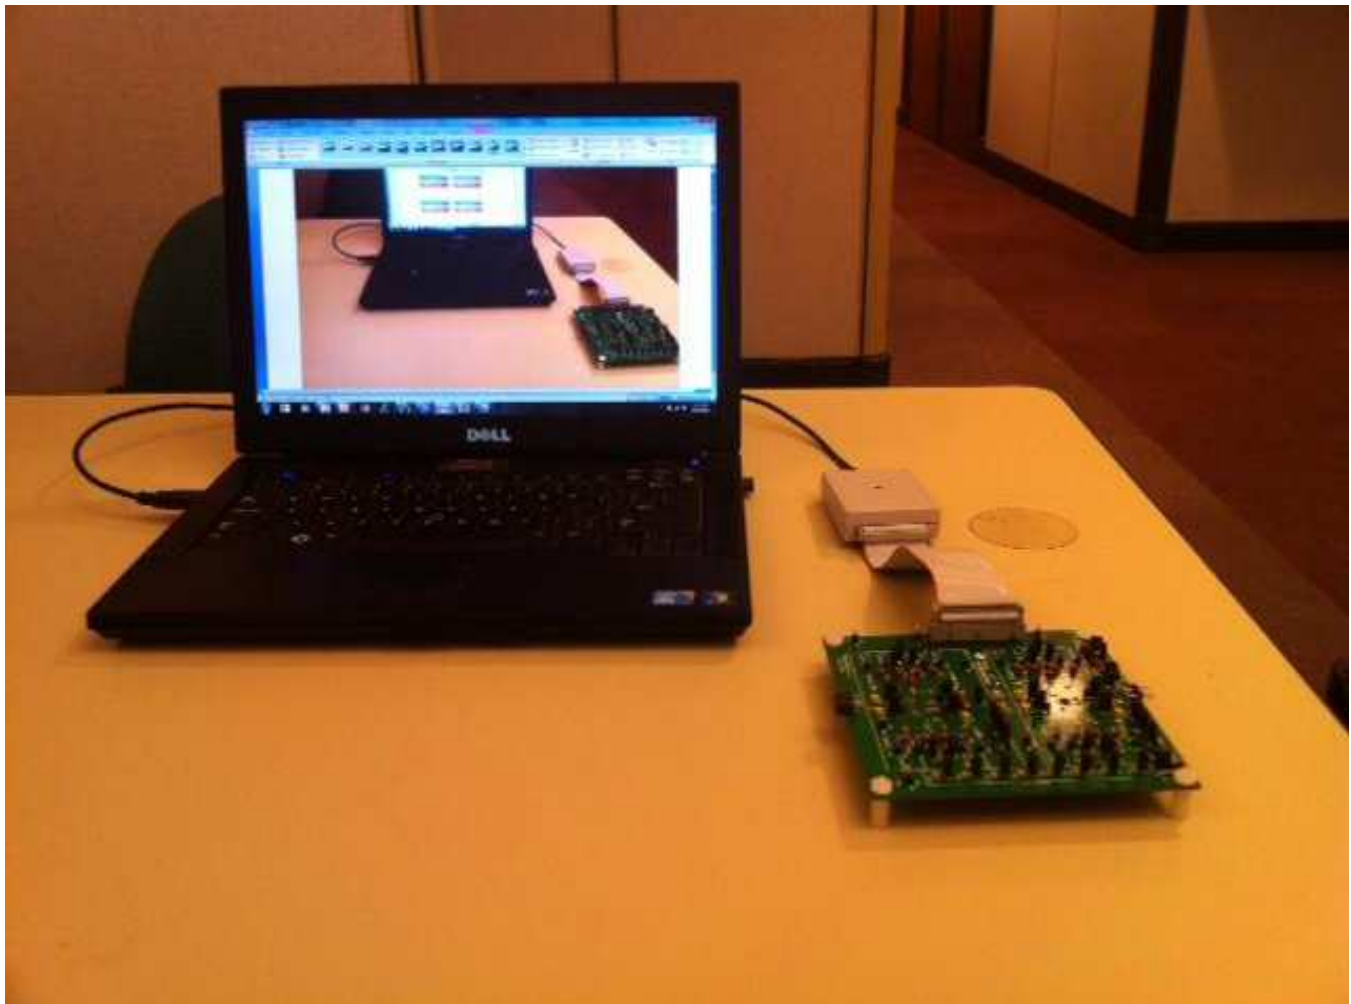

Figure 4. I²C Load Switch Board and USB2ANY Setup
(D) Connect the USB cable to the USB2ANY and then to the computer and connect the ribbon cable to the EVM board. The setup should look like Figure 4 when you are done.